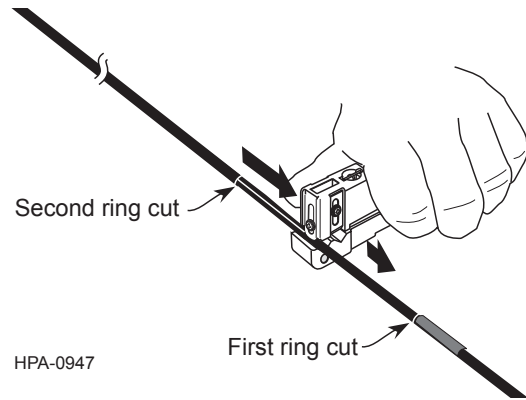

Figure 14
Step 4: Use the end of the Ideal® tool with a rounded blade installed and make a longitudinal cut between the first and second ring cuts made in Step 3 (Figure 14).